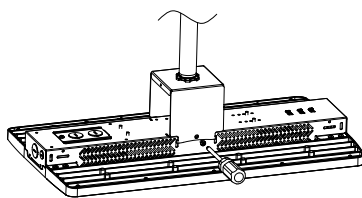

Figure 4
Step2. Lock fixture on the bracket (Figure 4);